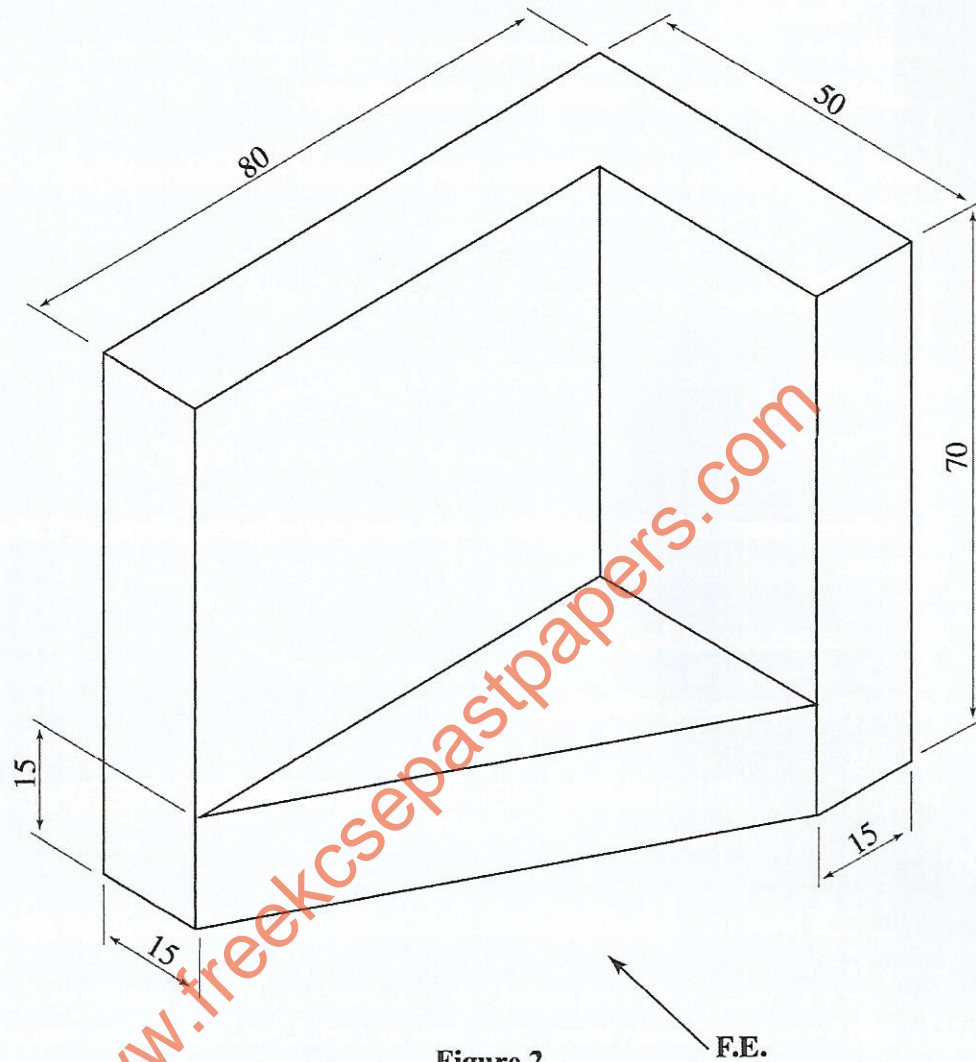

Figure 2
15. Figure 2 shows a pictorial view of an aircraft part.